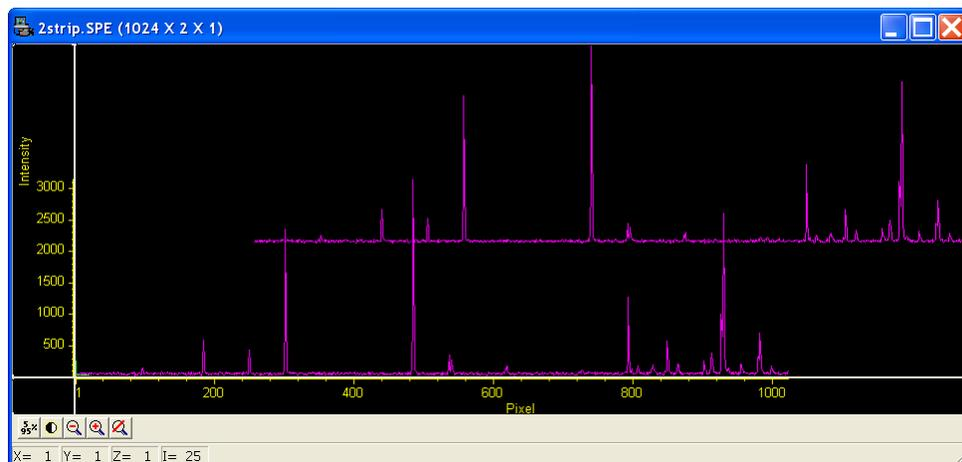
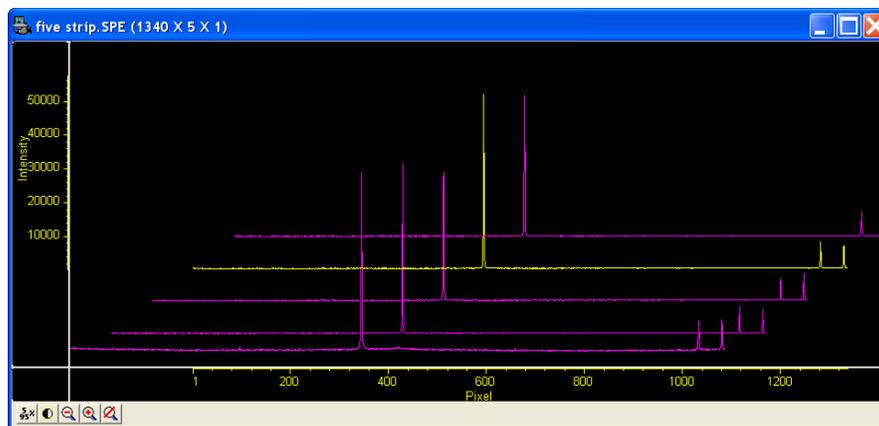

Figure 37. 3D Graph with Two Data Strips
Figure 53. 3D Graph with Five Data Strips
- ⇒ If there are only two strips of data, they will be displayed as a 3D Graph of two strips. See Figure 37 (page 65).
Data files can be opened as 3D graphs from the Open dialog. Figure 53 shows a 3D graph with five data strips. Figure 37 (page 66) shows a 3D graph with two data strips. Both examples illustrate the behavior of the **Auto Select** algorithm as discussed on page 65. The following paragraphs contain procedures for opening and displaying data in graphical format.